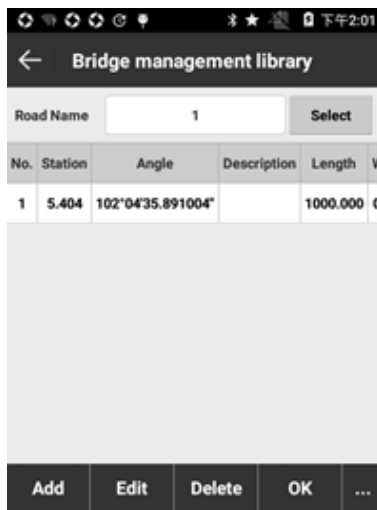
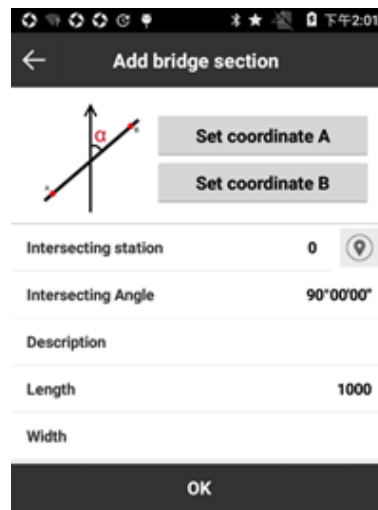

Figure 5.16-2
Figure 5.16-3
-  Bridge management library. As shown in Figure 5.16-2, it includes Add, Edit, Delete, Import, Export and OK operation. Press [Add] to enter interface as shown in Figure 5.16-3, set coordinate A and B, and it can automatically calculate intersecting mileage, intersecting angle and other parameters. And then press [OK] to create a new bridge section. Select any bridge section and press [Edit] and it can edit every parameter. Press [Delete] and it can delete the selected bridge section. Press [Import]/[Export] and it can import/export bridge file in *.XDM format.